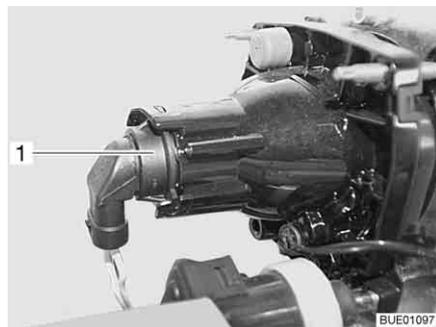

Fig. 265 Low beam/main beam/parking light
- Put your hand behind the lamp holder (Fig. 265,1).